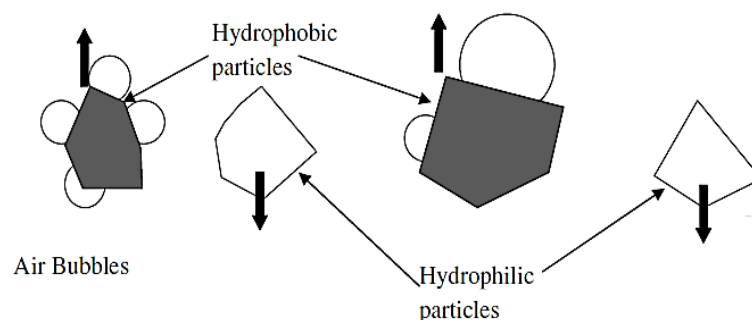

Figure 1. Hydrophobicity and hydrophilicity of particles
- (b). Figure 1 shows the hydrophobicity and hydrophilicity of particles during the froth flotation process. State the difference between the hydrophobic and hydrophilic particles and explain how surface of particle become hydrophobic.